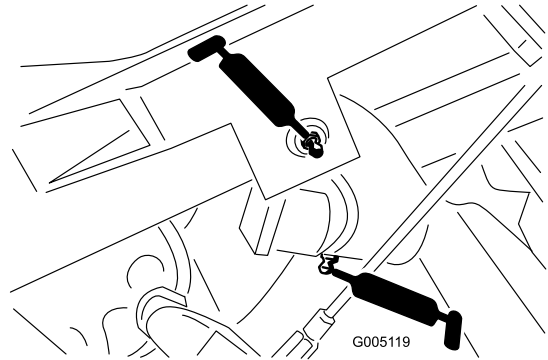

Figure 38
- Lift arm pivot (3) and pivot hinge (3) (Figure 38)